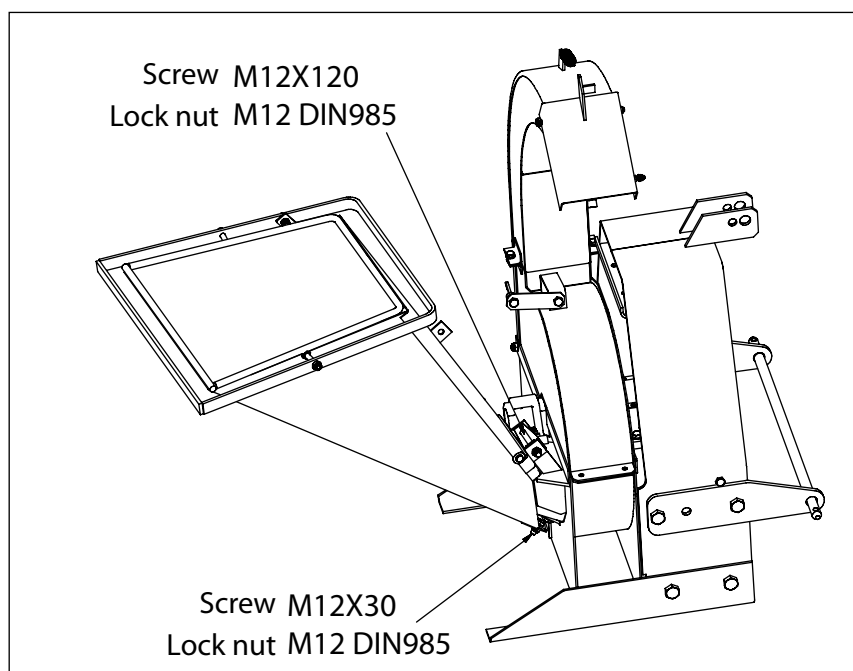

Fig. 4. Installation of the feed chute / Chipping position
1. Attach the feed hopper to the chipper using M12x120 and M12x30 hexagon head bolts and lock nuts. Lock the feed hopper in its operating position. See fig 4.